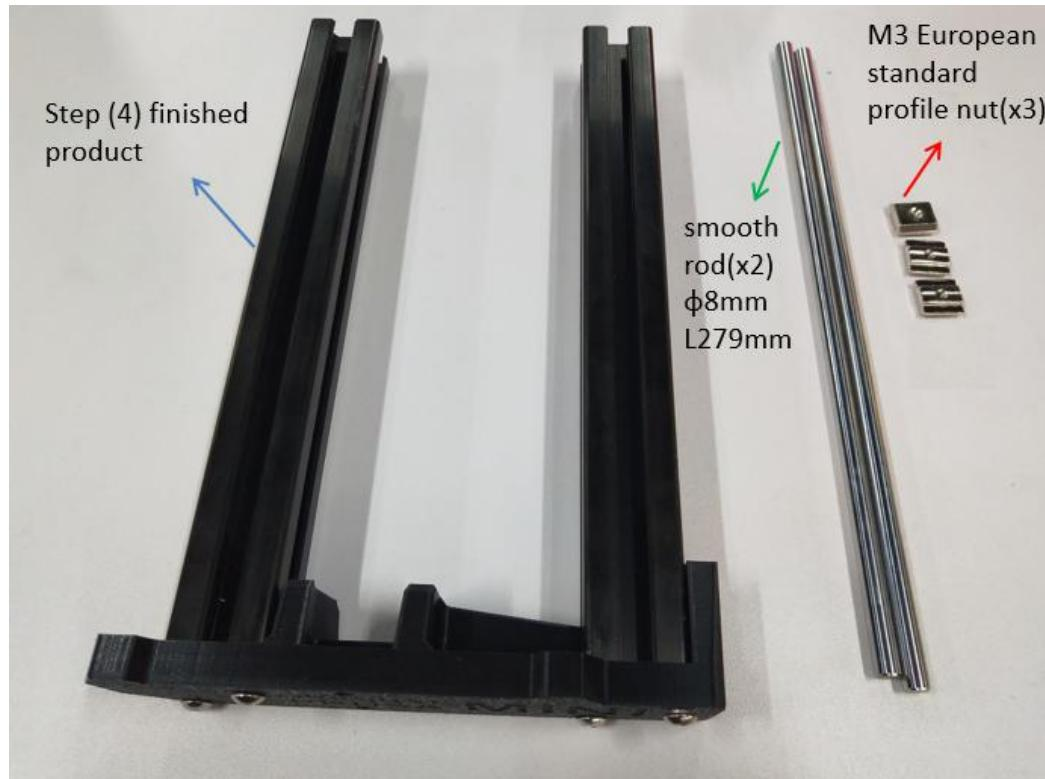

Figure 1.8.1
**Step 1-8-1:** As shown in Figure 1.8.1, prepare the materials and check whether the quantity of materials is correct, and prepare for the next installation.